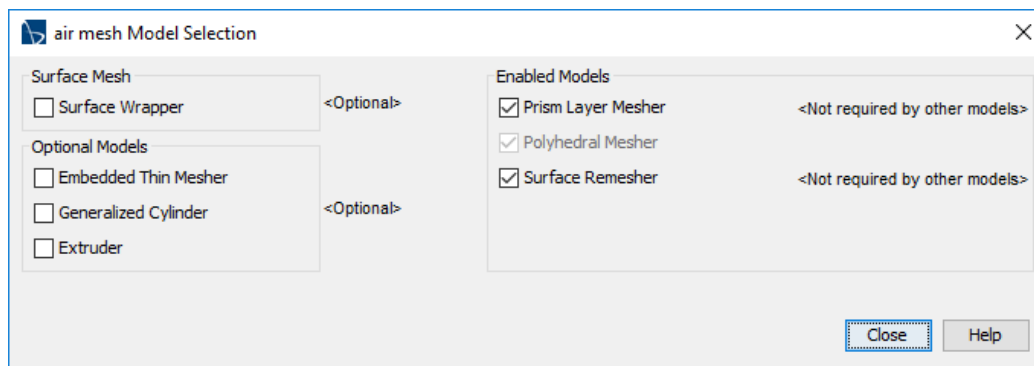

Figure 7 Selection of features for the air mesh continuum.
- Right click on *Models* → *Select Meshing Models*. In the *air mesh Model Selection* modal window, make the following selections. Figure 7 shows the result, with the Polyhedral meshing model selected.